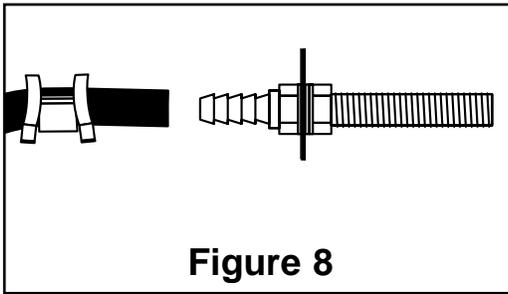

Figure 8
- K. Slide air line clamp over the air line. Push air line onto fitting covering all barbs, with pliers slide the air line clamp forward until it fully covers the barbed section (Figure 8).
- I. Slide a clamp onto the air line and push the air line over the fitting, covering all the barbs. With pliers slide the air line clamp forward until it fully covers the barbed section (Figure 8).